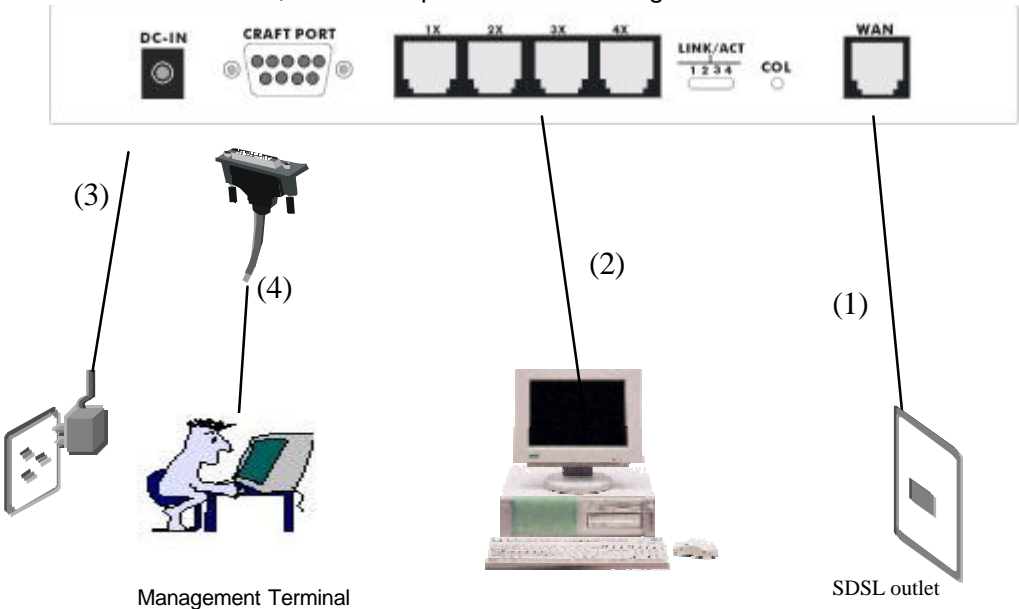

Figure 3: Hardware Installations
1. Connect the SDSL cable, (item 1) indicated in Figure 3, to the LINE port of RJ-11 socket.
2. Use a RJ-45 cable, (item 2) indicated in Figure 3, to connect the *SDTU-01/ET10* to the LAN or a PC with Ethernet adapter installed.
3. Plug in the AC adapter to an AC power socket, then connect the DC jack, (item 3) indicated in Figure 3, the DC inlet of the *SDTU-01/ET10*.
4. Use a 9-pin RS-232 cable (item 4) indicated in Figure 3, to connect the Console Port to a serial port of a terminal such as PC with data terminal emulation software (Hyper Terminal) installed, in order to perform local management.